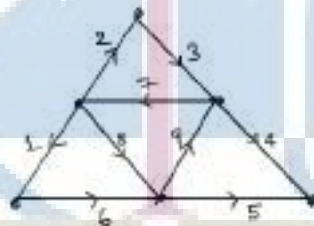

Figure 7: Figure for question 14 (b).
- (b) For the graph shown in Fig. 7, write the cut-set (KCL) equations for the following cut-sets: $\{1, 6\}$, $\{1,2,7,8\}$, $\{5, 6, 8, 9\}$ and $\{2, 5, 7, 9\}$. Will this set of equations form an independent set of equations? If not why? (6)